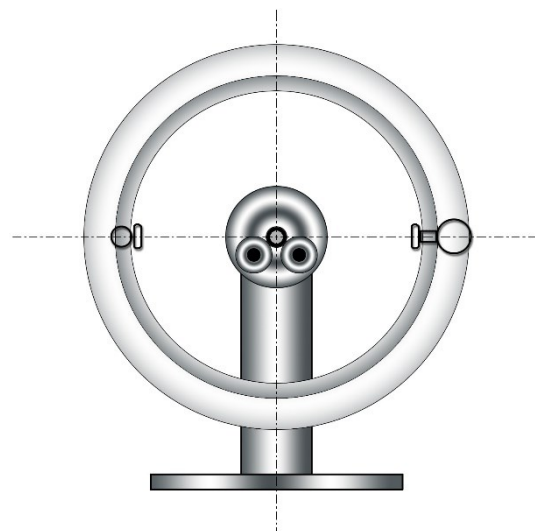

Figure 4: Matching
5. Now remove the applied balancing weight (step 5). With a little bit of luck, the unbalance of the rim without tires and the rim with tires is annulled. If this is not the case, turn the rim so that the two marked points are as shown in Fig. 4. Now the complete wheel is balanced. Normally, you only need one of the two weights. The weight must be applied until the complete wheel remains in the rest position. When doing so, be careful to use as little weight as possible, the weight should be evenly distributed on both sides of the rim. If a total weight of more than 50 g is required, then you should reclaim the tyre.